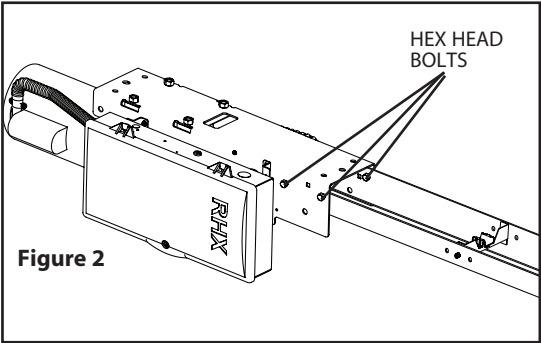

Figure 2
- 1) Attach Track to Power Unit using four (4) 7/16"-14 x 1" Hex bolts, 7/16"-14 Hex nuts and 7/16" lock washers (provided). **Fig. 2.**